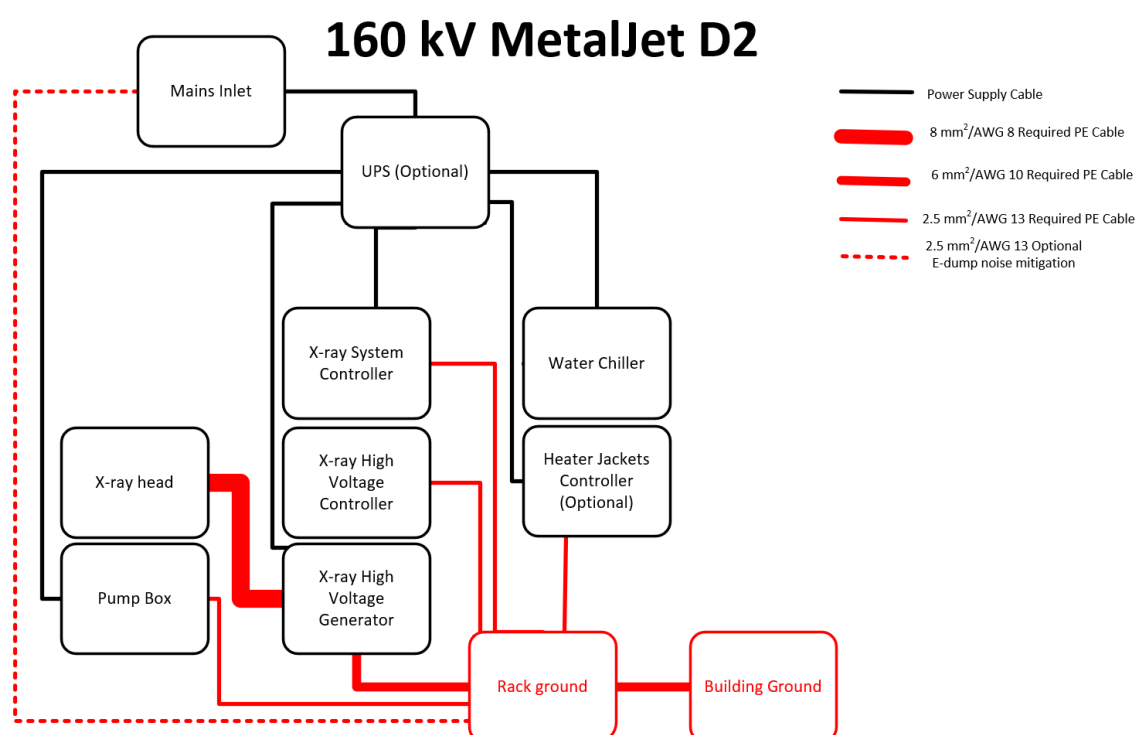
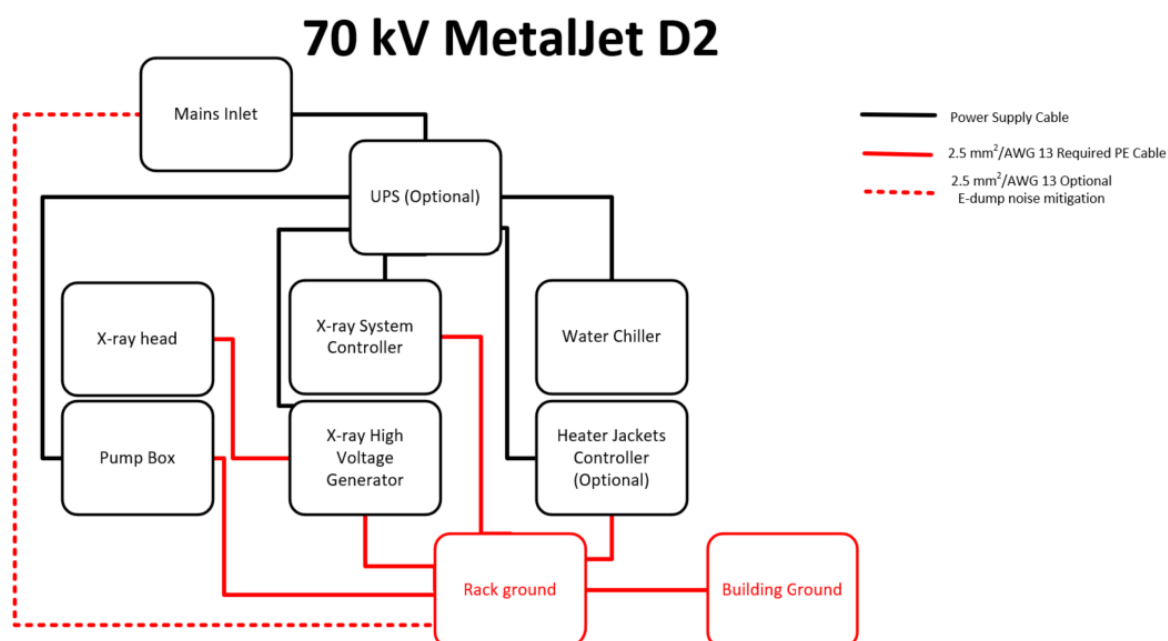

Figure 4-26. Schematic showing how to connect the protective earth terminals of the sub-modules to the system ground terminal on 160 kV MetalJet D2.
Figure 4-27. Schematic showing how to connect the protective earth terminals of the sub-modules to the system ground terminal on 70 kV MetalJet D2.
1. Connect appropriate grounding cables to the protective earth (PE) terminals of the four modules to a common system PE terminal. See Figure 4-26. or Figure 4-27. The terminals
are located close to the Mains supply terminals. The PE terminals are located at the back of each module. The uninterrupted power supply (UPS) offered with MetalJet D2+/C2 source in Figure 4-26. or Figure 4-27 is optional. Follow installation instructions from the UPS supplier if a UPS has been purchased together with the source. It is mandatory to connect the common system PE terminal to the Mains inlet PE terminal (dashed red line).
Immediate danger: Connect secondary ground to building ground according to Figure 4-26. or Figure 4-27.